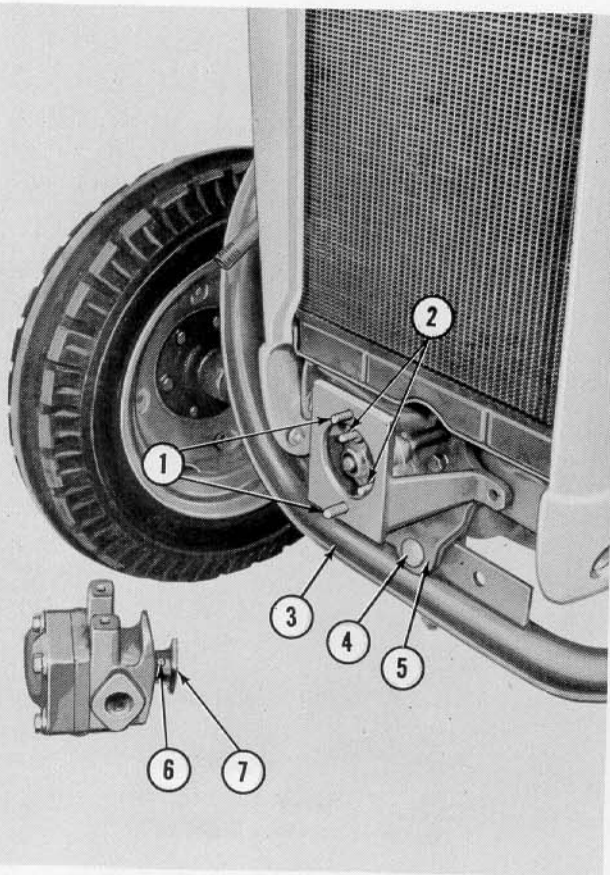
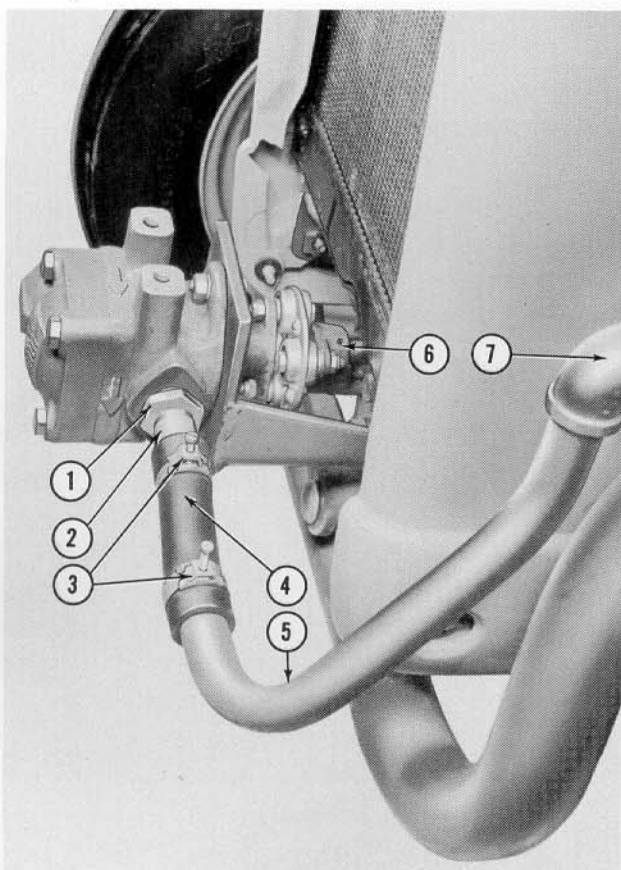

Figure 6
Figure 8
c. Attach the front end of the frame (3), Figure 6, to the clevis (5) on the loader suspension plate with the button head pin (4) and cotter pin provided.
- Fit the flange (7), Figure 6, on the pump shaft with the Woodruff key in place and tighten the Allen head screw (6) securely.
- Attach the hydraulic pump to the mounting bracket loosely with the bolts (1), Figure 6.
- Reattach the flange (7), Figure 6, to the coupling with the two bolts (2) and locknuts provided.
- Tighten the pump mounting bolts (1), Figure 6, securely. Make sure that the shaft is firmly seated in the splined drive plate and tighten the Allen head screw (6), Figure 8.
- f. Assemble the 1" to 3/4" reducer bushing (1), Figure 8, and the 3/4" x 3" nipple (2) and turn the reducer bushing into the left side of the hydraulic pump as shown in Figure 8.
- Install the 3/4" pipe elbow (7), Figure 8, on the frame outlet and turn the curved pipe (5) into the elbow as shown.
- Position the hose section (4), Figure 8, between the nipple and the curved pipe and tighten the clamps (3) securely.
- b. Disconnect the hose section (4), Figure 8, from the left side of the hydraulic pump by loosening the screw clamp (3).
- d. Attach one end of a length of hose to the nipple (2), Figure 8. Place the other end in the oil or kerosene to be used for flushing.
- f. Replace the drain plug in the loader frame and flush through the frame outlet (5), Figure 8. Reattach the hose (4), Figure 8. Retighten the clamps (3) securely.